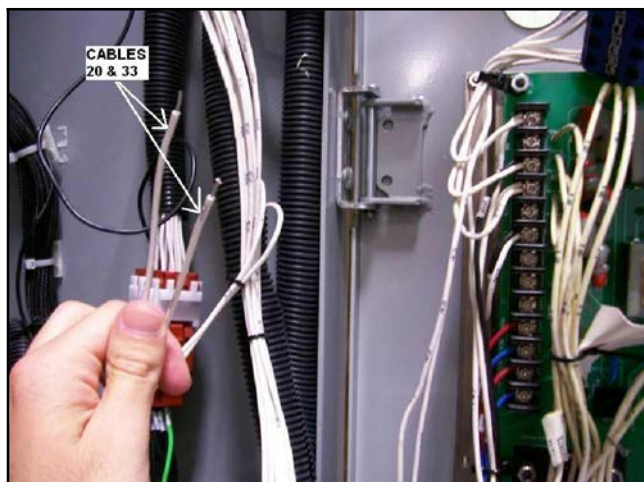

Figure 47 Leads 20 and 33
42. Cut the cable ties to release leads 33 and 20. See Figure 47.